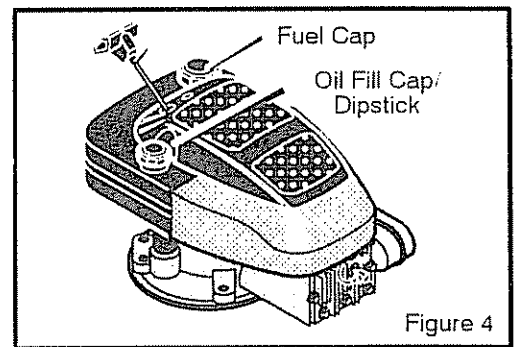

Figure 4
- 1 Remove the oil fill cap/dipstick shown in Figure 4. Fill the crankcase to the **FULL** line on oil fill cap/dipstick. **DO NOT OVER-FILL.**